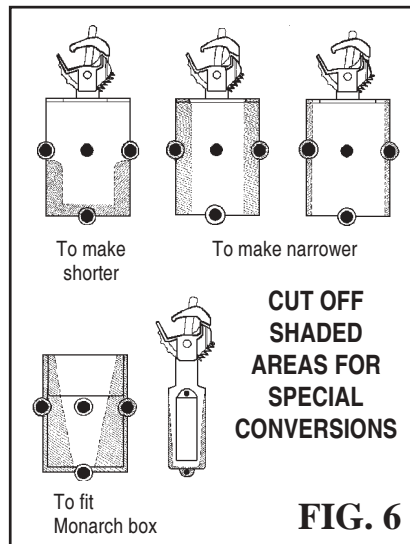

FIG. 6
7. Coupler and Draft Gear Box are now assembled. For mounting on equipment with limited space, Draft Gear Box can be altered. Fig. 6 shows possible alterations.